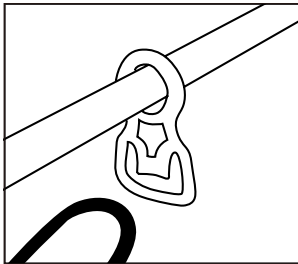

Fig. 14
1. Make sure the lock-off button (1) is in its off position.
2. Double the power cord about a foot from the end. Lead the loop through the hole and hook the loop over the cord strain relief (16) (Fig. 14).